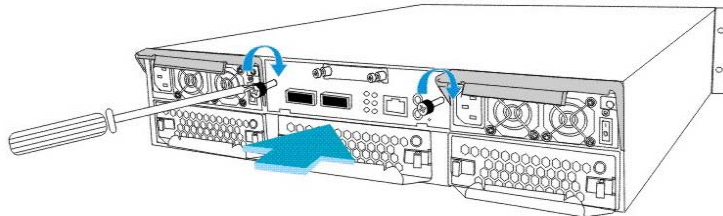

Figure 5-3: Installing the Controller Module
- Step 2. Install the replacement controller.** Align the controller module with the module bay. Gently slide the controller module in and use slightly more force to engage the back-end connectors. (See **Figure 5-3**)